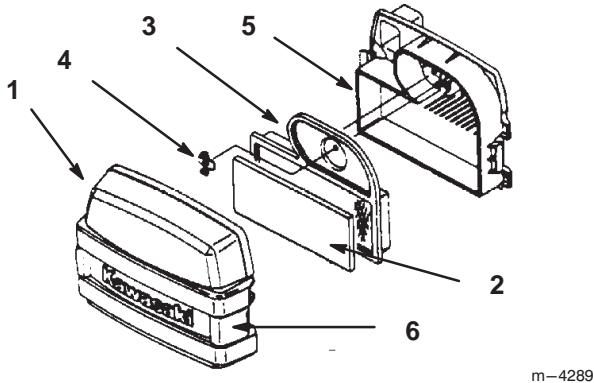

Figure 19
2. Clean around the air cleaner to prevent dirt from getting into the engine and causing damage. Unlatch the two side latches and remove the air cleaner cover (Fig. 19).
3. Carefully remove the foam element from the paper element (Fig. 19).
4. Unscrew the wing nut and remove the paper element (Fig. 19).
1. Carefully slide the foam element into the paper air cleaner element (Fig. 19).
2. Place the air cleaner assembly onto the air cleaner base and install the wing nut (Fig. 19).
3. Install the air cleaner cover and latch it (Fig. 19).